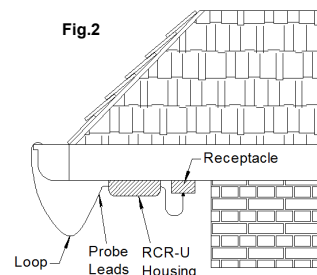

Fig.2
1. Mount the main housing under the soffit, or equivalent location protected from the weather, using the screws provided. Refer to Fig. 2. Ensure that the mounting location is close enough to the receptacle supplying power to the unit to allow the power cord on the control to be plugged in. The power connection should be located for the best protection from the weather and a drip loop used as appropriate. If desired, this receptacle can be controlled by a switch (with a pilot light) located inside the house. See Fig. 2.